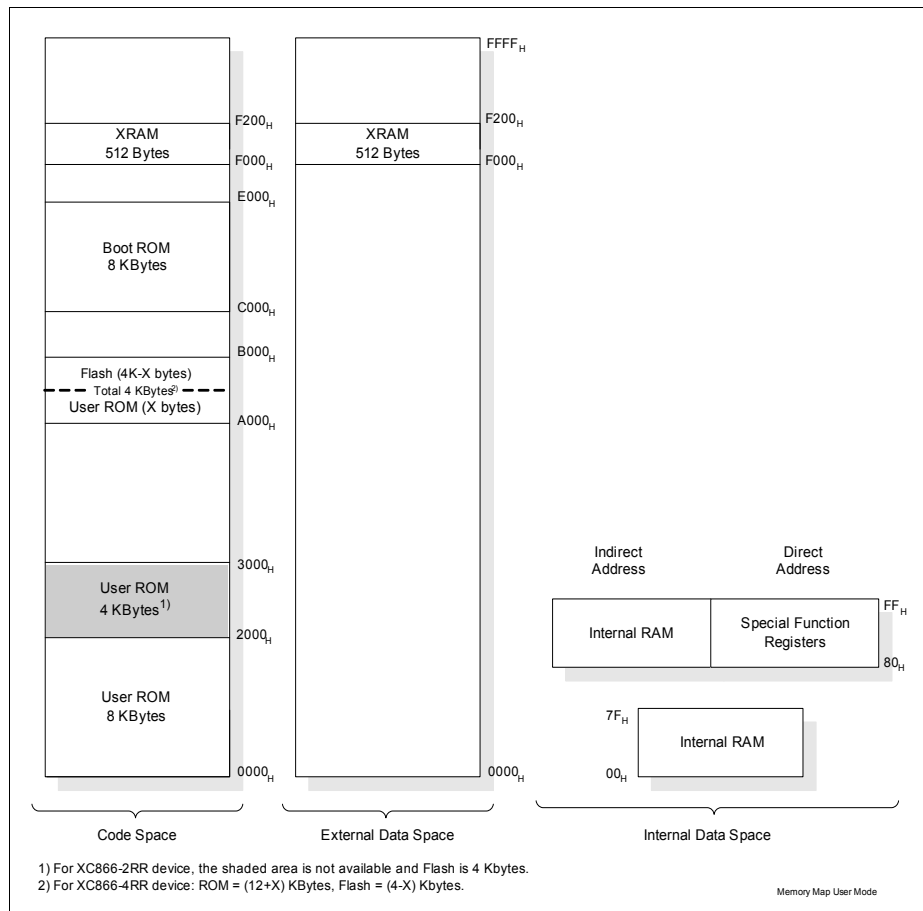

**Figure 7 Memory Map of XC866 ROM Devices**
**Figure 7** illustrates the memory address spaces of the XC866-4RR device.